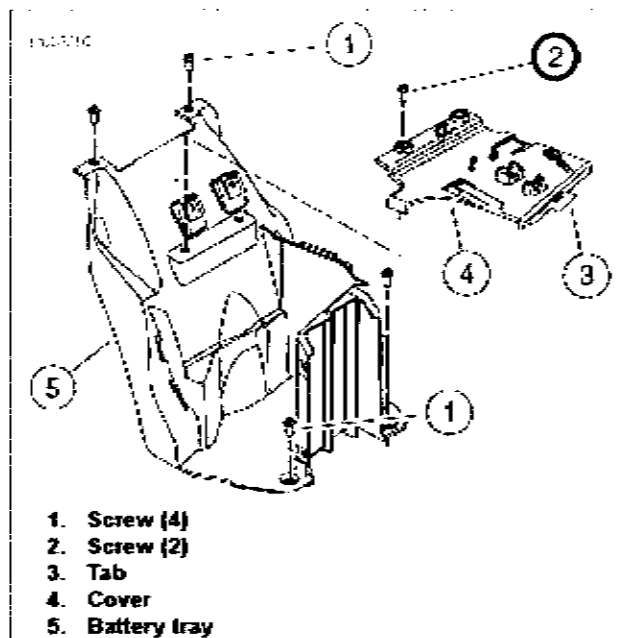

Figure 8-45. Battery Tray
6. Remove battery cover screws (2). See Figure 8-45. Y